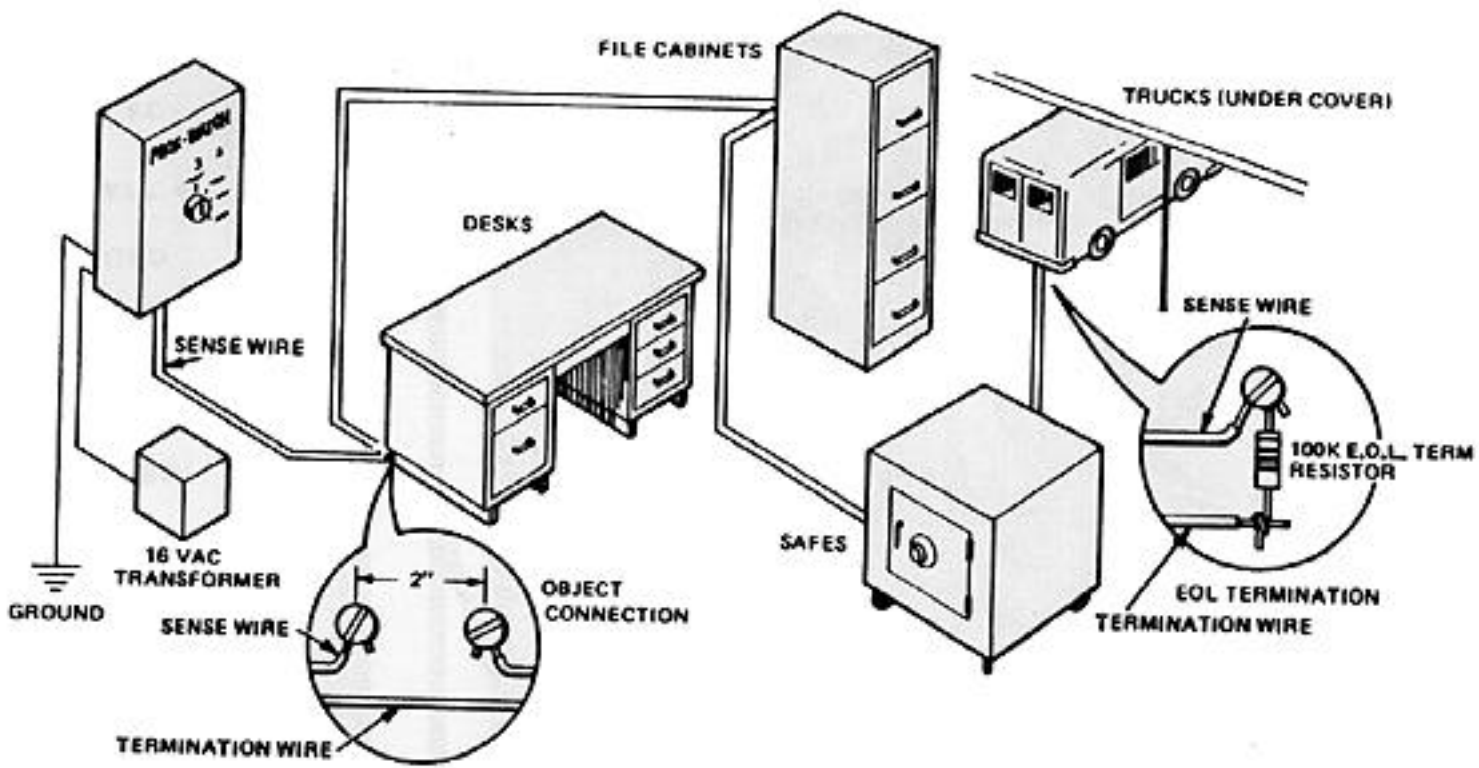

Figure 2. Object Connection Diagram
4.6 Route the sense wire cabling to the first object to be monitored. Using figure 2 as a reference, attach the sense wire conductor to a clean and unpainted metallic point on the object which is to be monitored.
4.7 For each additional object connected to the PROX WATCH, connect in series (daisy chain) the sense wire conductor. Using figure 2 as a reference, allow a 2 inch space between the electrical attachment points on each object.
4.8 Install the 100K \pm 5% ohm termination resistor provided on the last object to be monitored between the sense wire and the return wire. Use figure 2 as a reference.